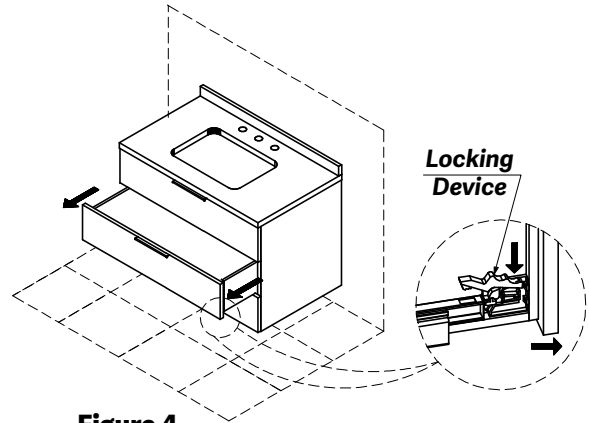

Figure 4
- Remove the middle drawers by pulling on the drawer, and pushing the locking device at the same time. See Figure 4.